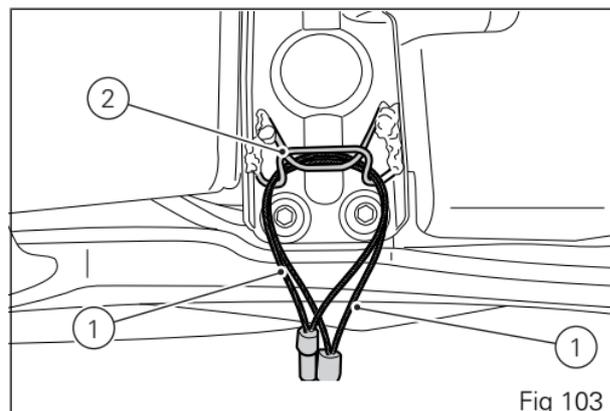

Fig 103
The correct position of the cable (1) ends in the pins (2) is shown in (Fig 103).